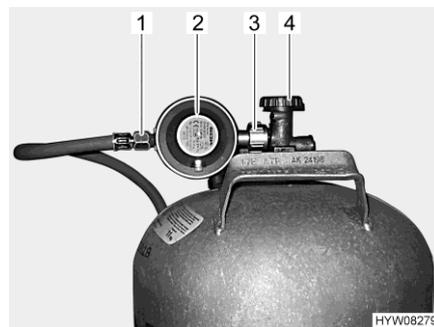

Fig. 86 Gas bottle connection
- Close the regulator tap (Fig. 86,4) on the gas bottle. Pay attention to the direction of the arrow.
- Hold the gas pressure regulator (Fig. 86,2) and open the knurled nut (Fig. 86,3) (normally a left-hand thread).
- Remove the gas pressure regulator and the gas tube (Fig. 86,1) from the gas bottle.
- Position the gas pressure regulator (Fig. 86,2) with gas tube (Fig. 86,1) on the gas bottle and tighten the knurled nut (Fig. 86,3) (normally a left-hand thread). **Do not** tighten too firmly.